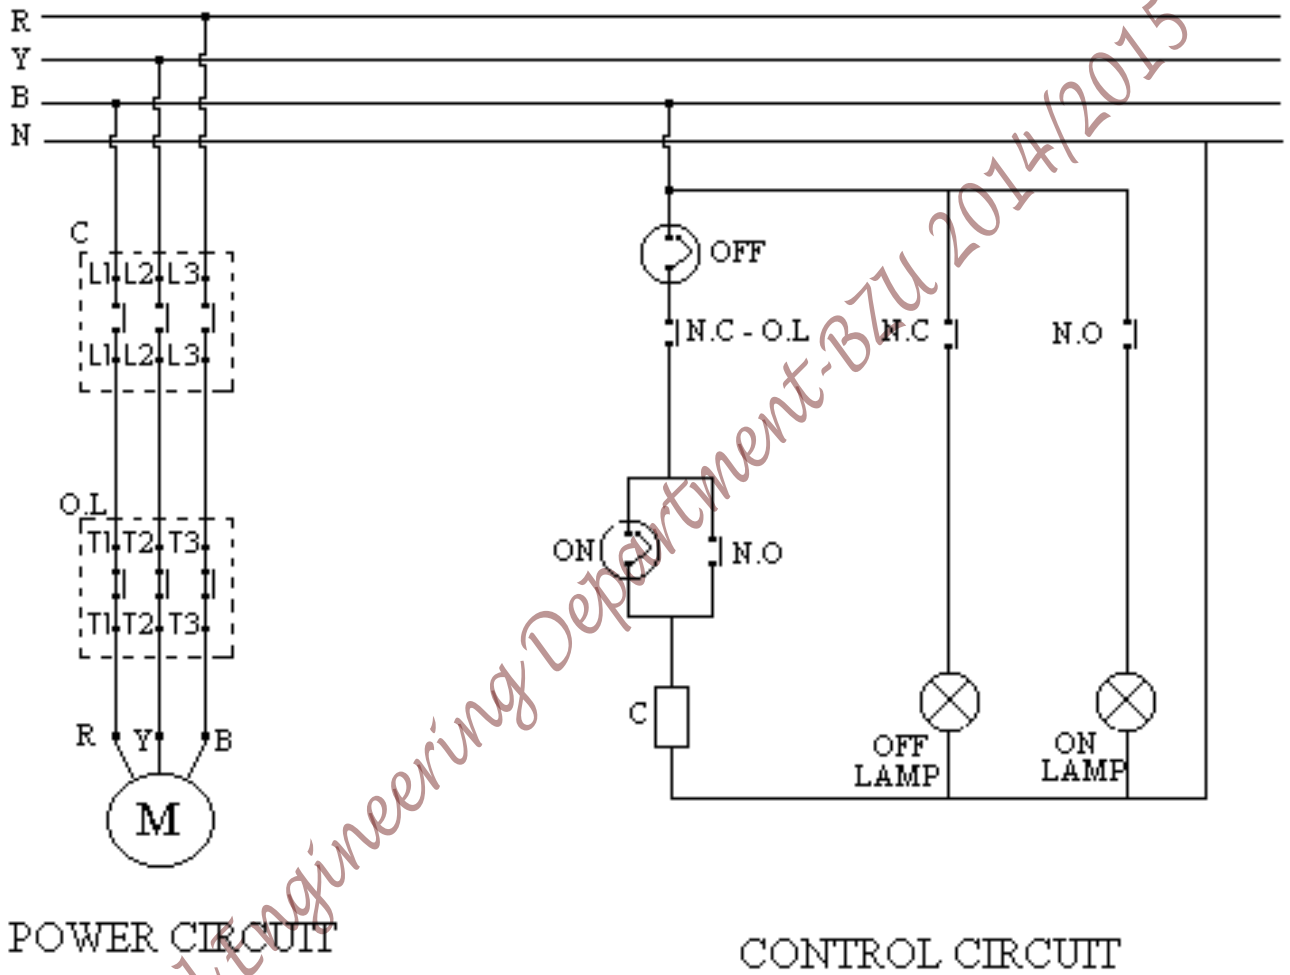

Figure 12.1: Controlling three-phase induction motor using ON switch, OFF switch, contactor, overload, 2-lamps
A) Study the circuit of Figure 12.1 before connecting it
B) Connect the circuit of Figure 12.1 and discuss its operation